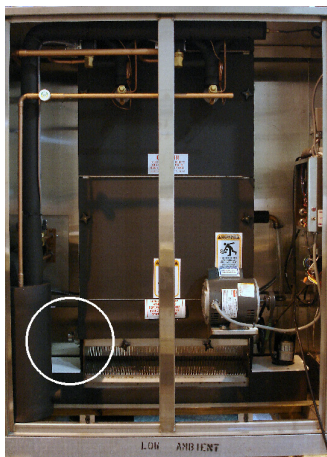
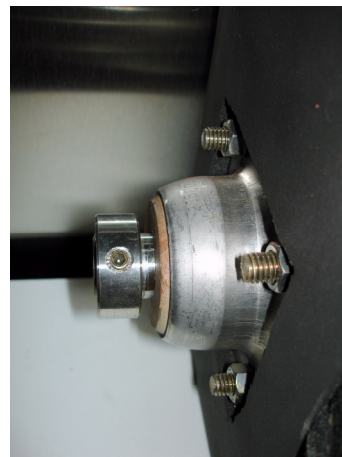

Figure 2 - Locking Collar Location
Figure 3 - Locking Collar
- Check that locking collar on left end of crusher bar has approximately ¼ inch gap between it and bearing. Refer to Figure 2 and Figure 3.